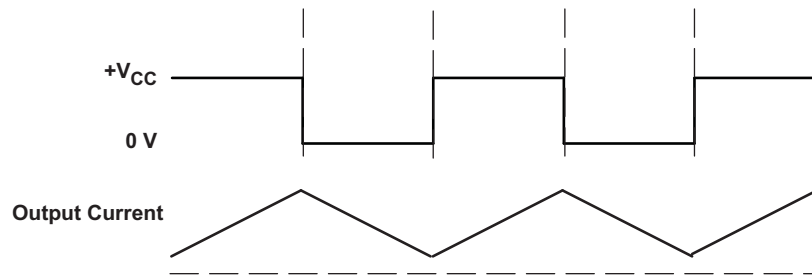
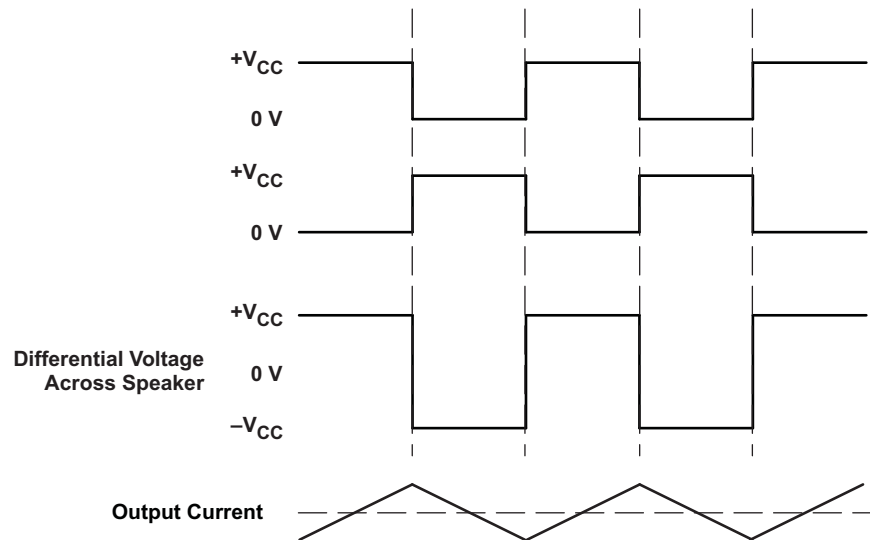

Figure 23. Class-D Modulation for TPA3123D2 SE Configuration
Figure 24. Class-D Modulation for TPA3123D2 BTL Configuration
The TPA3123D2 operates in AD mode. There are two main configurations that may be used. For stereo operation, the TPA3123D2 should be configured in a single-ended (SE) half-bridge amplifier. For mono applications, TPA3123D2 may be used as a bridge-tied-load (BTL) amplifier. The traditional class-D modulation scheme, which is used in the TPA3123D2 BTL configuration, has a differential output where each output is 180 degrees out of phase and changes from ground to the supply voltage,  $V_{CC}$ . Therefore, the differential prefiltered output varies between positive and negative  $V_{CC}$ , where filtered 50% duty cycle yields 0 V across the load. The class-D modulation scheme with voltage and current waveforms is shown in Figure 23 and Figure 24.